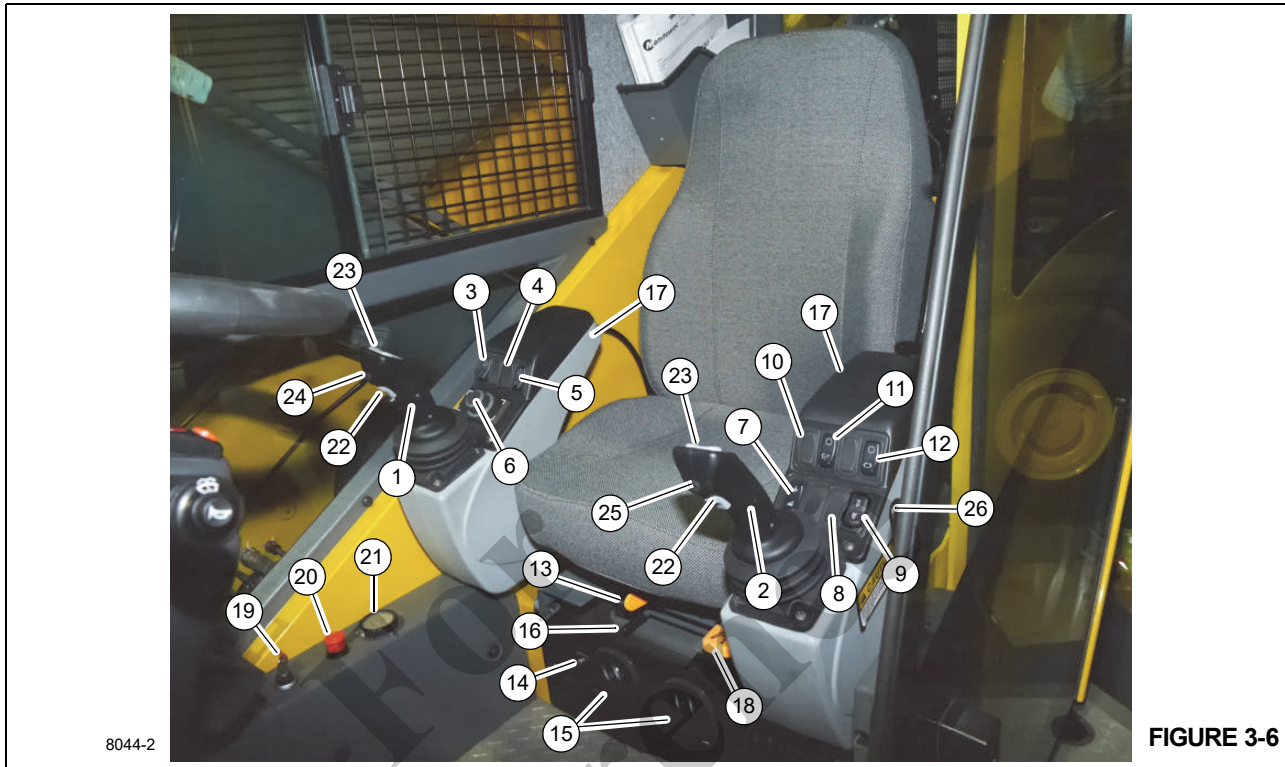

FIGURE 3-6
The Boom Lift/Main Hoist Joystick (1) Figure 3-6 is located on the right armrest. The controller, when pushed to the right lowers the boom, or pushed left raises the boom.
The Swing/Telescope or Swing/Auxiliary Hoist (Swing/Tele or Swing/Aux) Joystick (2) Figure 3-6 is located on the end of the left armrest. The lever controls swing and telescope functions when crane is not equipped with an auxiliary hoist.
The Main Hoist Enable Switch (3) Figure 3-6 is a momentary switch that is located on the right armrest. Press once to enable hoist; press again to disable hoist. Pressing the switch twice rapidly enables hoist at high speed. Pressing once and holding the switch for about 2 seconds also enables high speed.
The Boom Up Bypass Switch (4) Figure 3-6 is a momentary two-position rocker switch that is located on the right armrest. While lift function is enabled and in a RCL lockout condition, pressing and releasing the Boom Up Bypass Switch will enable boom lift up.
The Lift Function Enable switch (5) Figure 3-6 is a momentary switch that enables boom up and boom down.
The Jog Dial Control (6) (Figure 3-6) is located on the right arm rest. It selects and chooses functions on the screen(s) to navigate the Crane Control System.
The Outrigger Function Enable Switch (7) Figure 3-6 allows the operator to switch between extension/retraction of outriggers and raising/lowering of the jacks. Press and hold switch to force the lower screen display to change to the outrigger page.
The Differential Lock Switch (8) (Figure 3-6) is located on the left arm rest. It engages the differential lock function for additional traction when Four Wheel Drive is selected. It can be activated for a maximum of 30 seconds at a time.
The Rear Steer Control Switch (9) (Figure 3-6) is a three-position, spring centered to off, rocker switch, located on the left armrest. Press bottom of switch to actuate a control valve to turn rear wheels to the left, causing crane to turn to the
The Auxiliary Hoist Enable Switch (10) (Figure 3-6) is located on the left arm rest. It enables the Auxiliary Hoist and sets the high speed the same as the Main Hoist Enable Switch does for the Main Hoist.
The Boom Telescope Enable Switch (11) (Figure 3-6) is located on the left arm rest. It enables the boom telescoping function for the optional Telescope Control Foot Pedal, or for the Joystick (joystick) if there is no auxiliary hoist.
The Swing Enable Switch (12) (Figure 3-6) is located on the left arm rest. This two-position rocker switch (On/Off) is used to control a hydraulic valve that directs a regulated flow of pressure to and from the swing brake. When the joystick moves to swing the crane the brake releases. When the crane stops swinging the swing brake re-engages.
Moving the Seat Slide Lever (13) (Figure 3-6) slides only the seat forward or backward.
The crane cab Air Conditioner/Heater Climate Unit (14) (Figure 3-6) is located in the cab under the driver's seat. The vents (15) are part of the climate unit and can be adjusted to direct the flow of air.
Moving the Seat Frame Slide Lever (16) (Figure 3-6) slides the seat and armrests forward or backward.
Left and right armrest and armrest controls can be adjusted using the adjustment buttons (17) (Figure 3-6) found under the rear of the armrest. Press the button to rotate the entire armrest; release button at the desired position.
To adjust seat height, lift height adjustment lever (18) (Figure 3-6) and adjust seat as needed.
The Limit Bypass Switch (19) (Figure 3-6) is a three-position, momentary type key switch. In an emergency situation only, turn switch clockwise or counterclockwise and hold to bypass the different limiter systems on the crane.